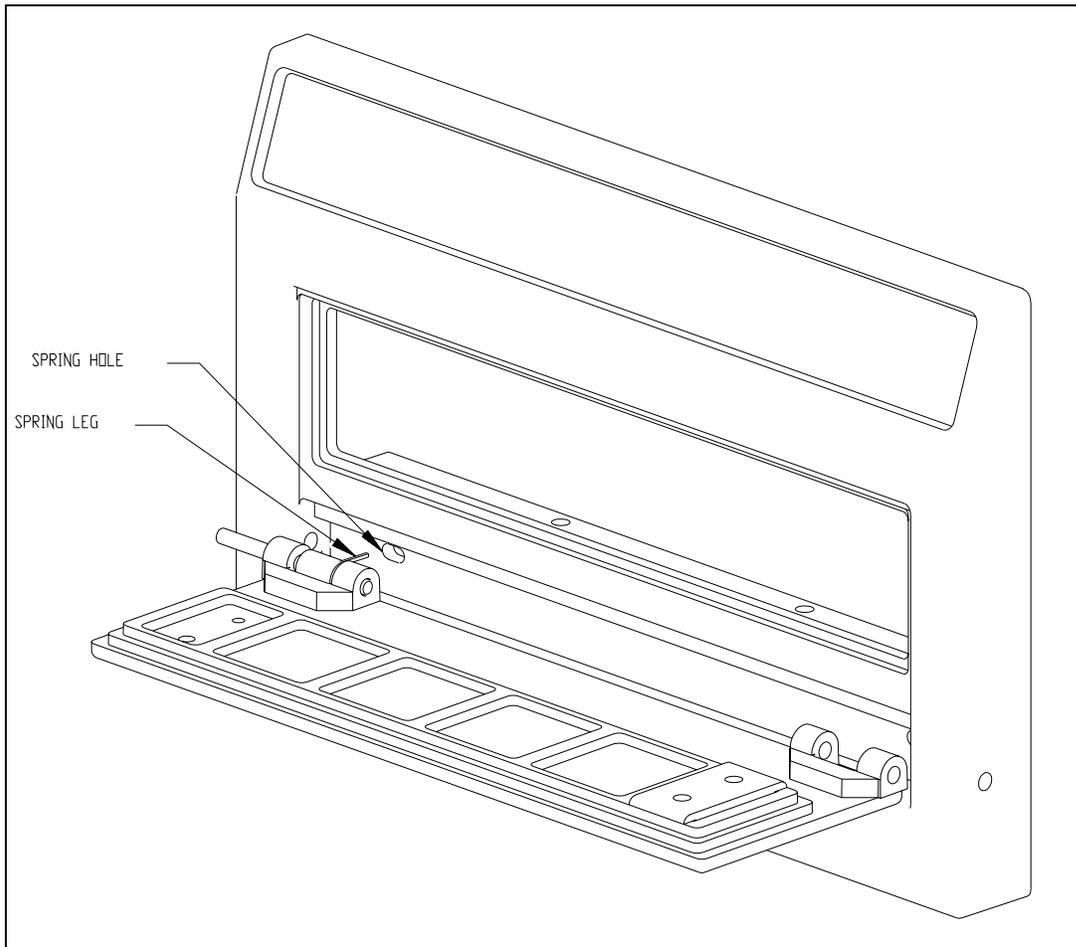

Figure 9-7 Position of Spring Hole and Leg
- 4 Adjust the pins so that one pin is flush and the other is projecting 1/8". Insert the projecting pin of the door into the bezel. As you do this, deflect the spring with a screwdriver so that it is pointing back and will enter the spring recess in the bezel shown in Figure 9-7. Do this with both springs. Insert the other end of the door. Engage the pin by pressing with a screwdriver. Use a miniature friction lock quick-grip clamp to press in the pins into the bezel.